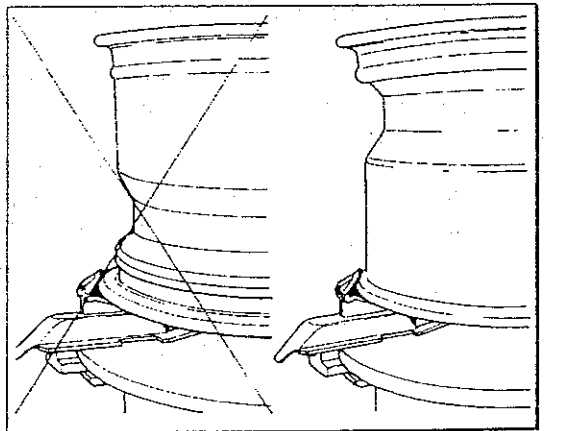

Fig.16
D. Liberally lubricate both beads. Place the wheel **WITH DROP CENTER UP** (Fig.16) on the turntable, and clamp in position. Hold the tire and wheel down while clamping.